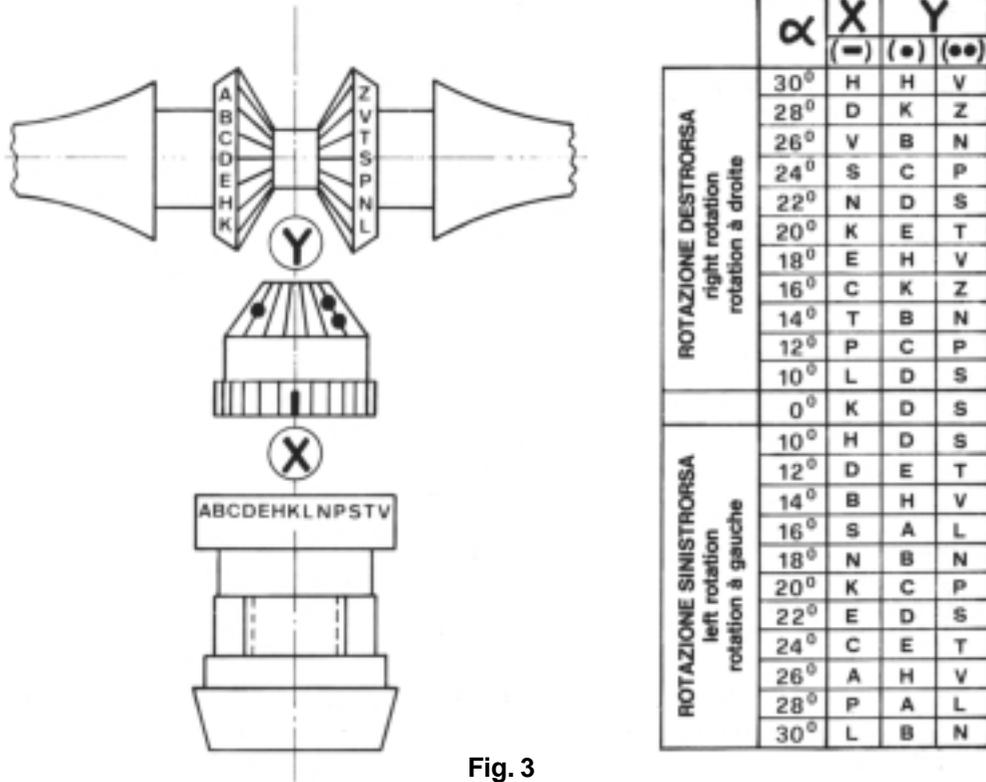

Fig. 3
**3) ASSEMBLY:** Make sure that if you receive more than one propeller that you do not interchange parts. Each propeller is individually balanced and if interchanged it will be put out of balance. Please use figure 3 in the instruction book for part number references.
- The numbers above are from Figure 3 at the beginning of this Max-prop Manual